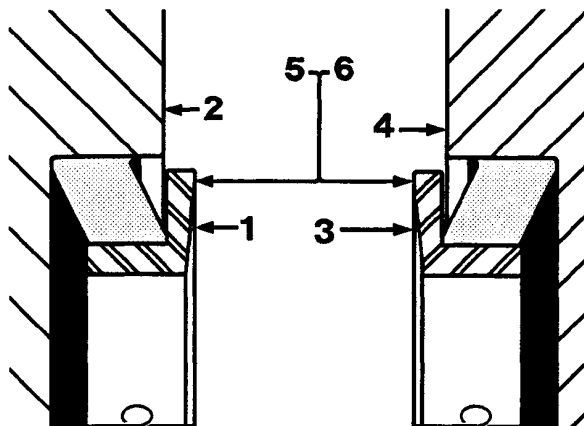

Fig. 14.66. Seal Kit Preparing for Installation
- Install one seal half (1, Fig. 14.66) into receptacle (2) so protruding lip just contacts seal bore. Press with both clean hands (180 [°] apart) against metal ring until rubber ring is evenly seated against bore shoulder. Make sure seal is not cocked in bore. Repeat procedure for other seal half (3) and receptacle (4). Wipe both metal ring sealing faces clean (5) with a lint free wiper. Apply a light coat, just enough to wet faces, of clean lubricant (6) to seal faces of metal rings.